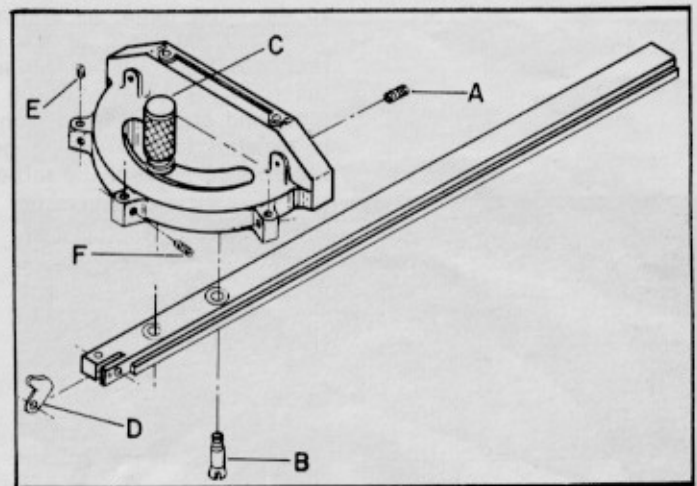

Fig. 9
The miter gage supplied with your saw is accurately constructed and equipped with individually adjustable index stops at 90 degrees and 45 degrees right and left. Adjustment to the index stops can be made by loosening locking screws (E) and tightening or loosening the three adjusting screws (F) Fig. 9.
To operate the miter gage, simply loosen the lock knob (C) Fig. 9, and move the miter gage body to the desired angle. The miter gage body will stop at 90 degrees and 45 degrees both right and left. To rotate the miter gage body past these points simply push down the lever (D) Fig. 9.
The head of the miter gage pivots on a special tapered screw that fastens the head of the miter gage to the bar. If the miter gage head does not pivot freely or after long usage pivots too freely, it can be adjusted by loosening set screw (A) Fig. 9, and turning the tapered screw (B) in or out. Be sure to tighten set screw (A) after adjustment is made.